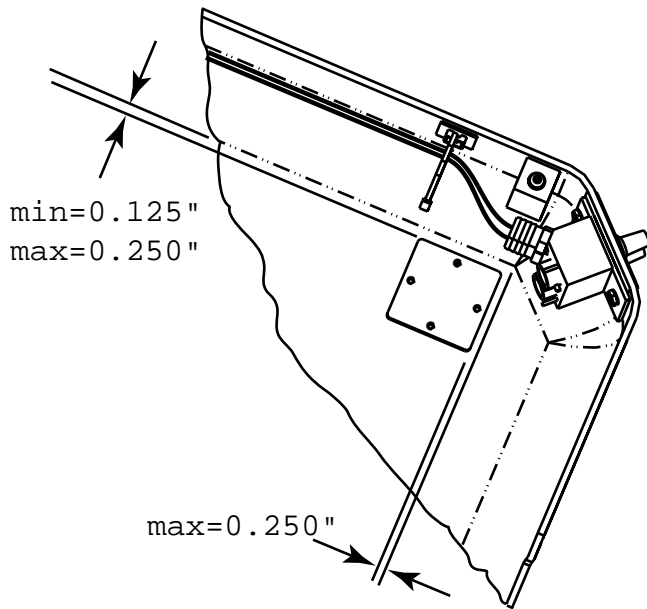

Figure 3
7. Lay the right side cover on a protected flat surface so that you do not scratch or mar the plastic surface. You are now going to use the mounting block to locate the holes (Figure 3) that you will need to drill for mounting the counter support assembly. After marking the holes, remove the backing plate and drill your four holes using a 0.217 drill bit.